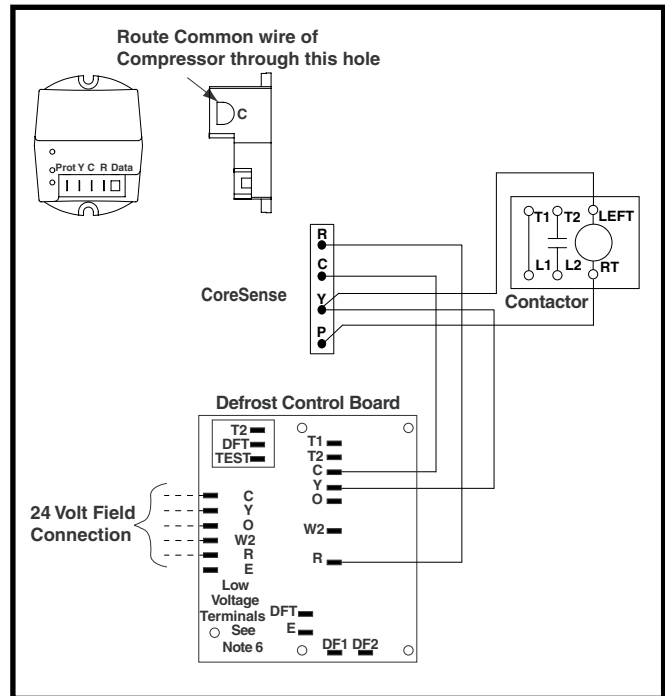

Figure 5. New HP Wiring with CoreSense
2. Reconnect the Run and Start wires from the compressor to their original connections. The Run (yellow) wire should connect to the "T1" of the contactor. The Start (Red) wire should connect to the "H" terminal of the capacitor. See Figure 5.